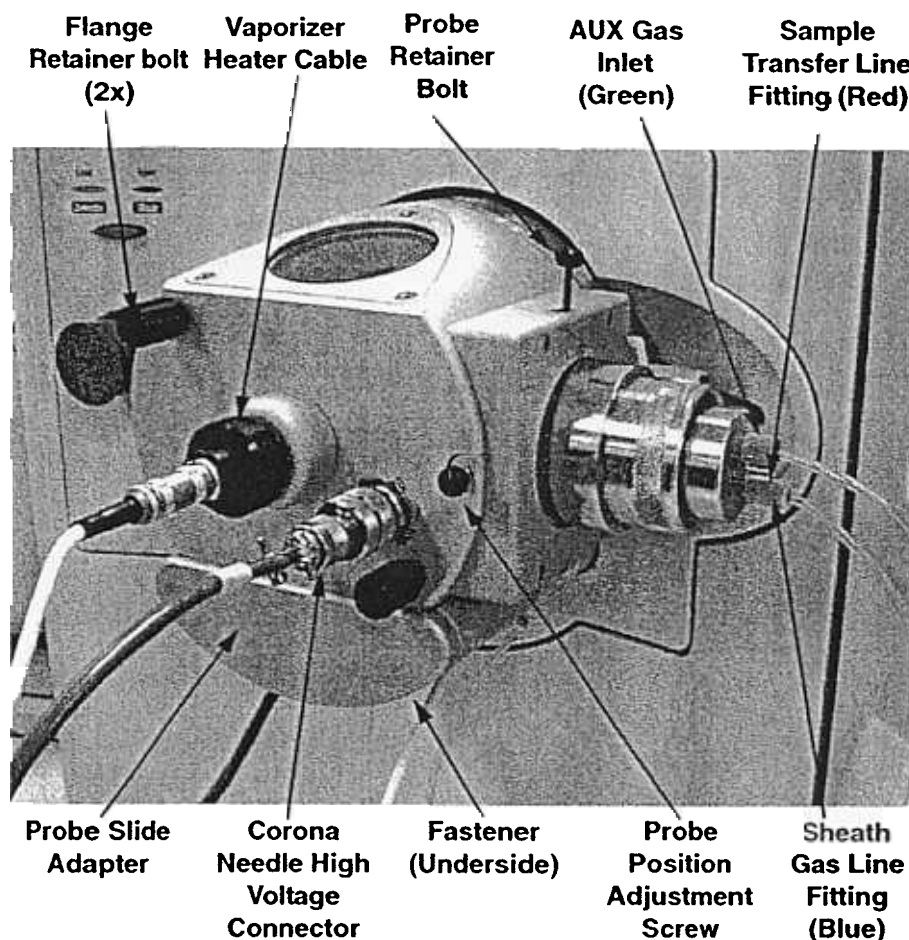

Figure 2-2. APCI probe assembly, showing AUX gas connected
2. Loosen the two flange retainer bolts that secure the APCI probe assembly to the API spray shield. See Figure 2-2.